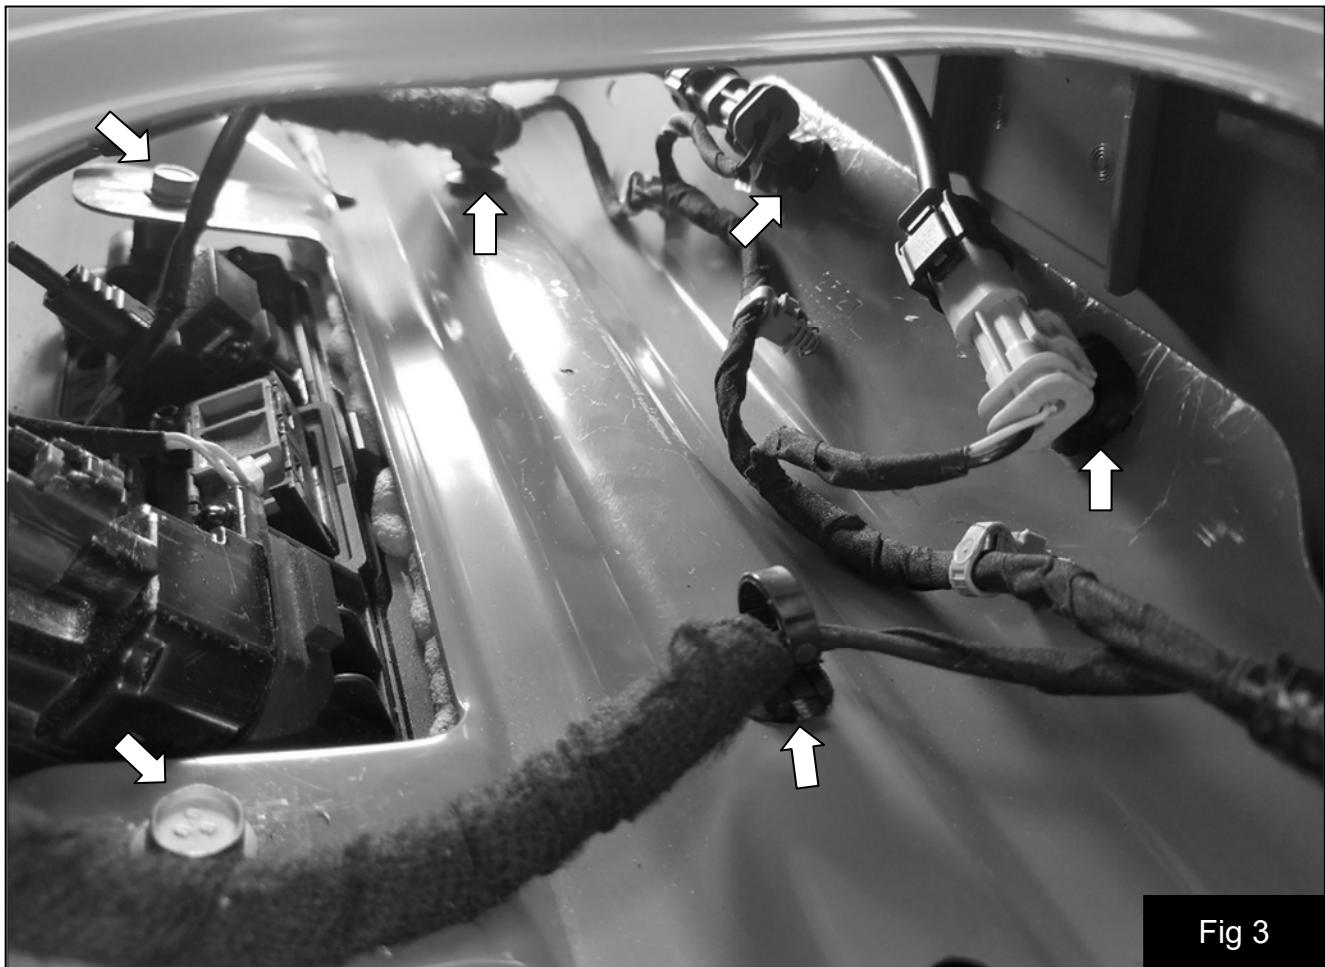

Fig 3
4. Loosen the two bolts securing the tailgate handle. Fig 3
5. Remove the wire retainers indicated. Fig 3